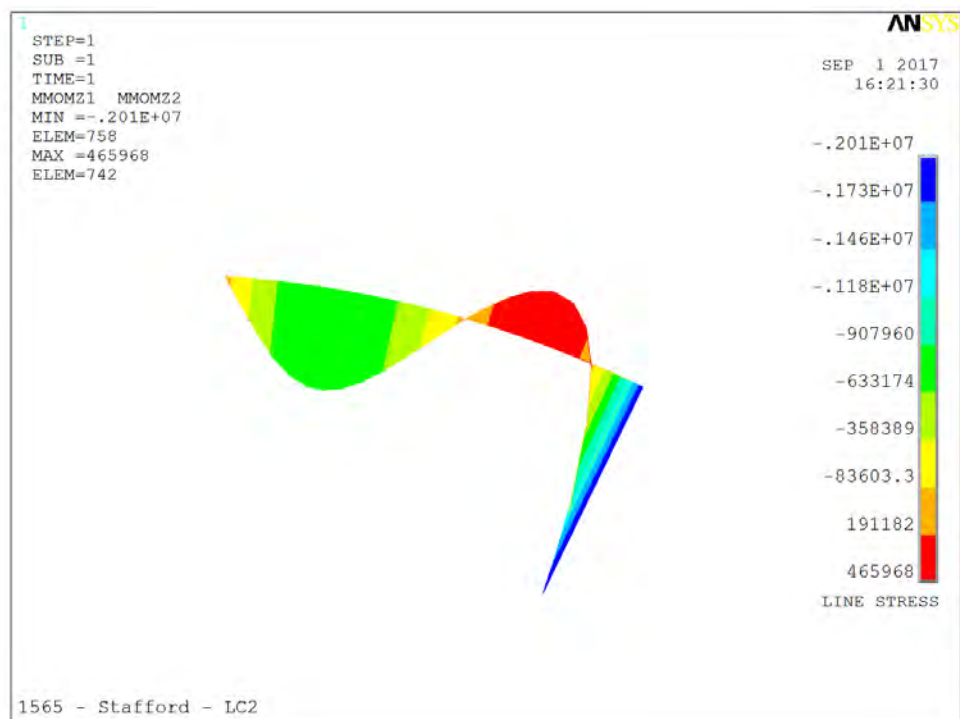

Fig. 2C
- **Fig. 2C - Dome moment (lbs-in/360)**